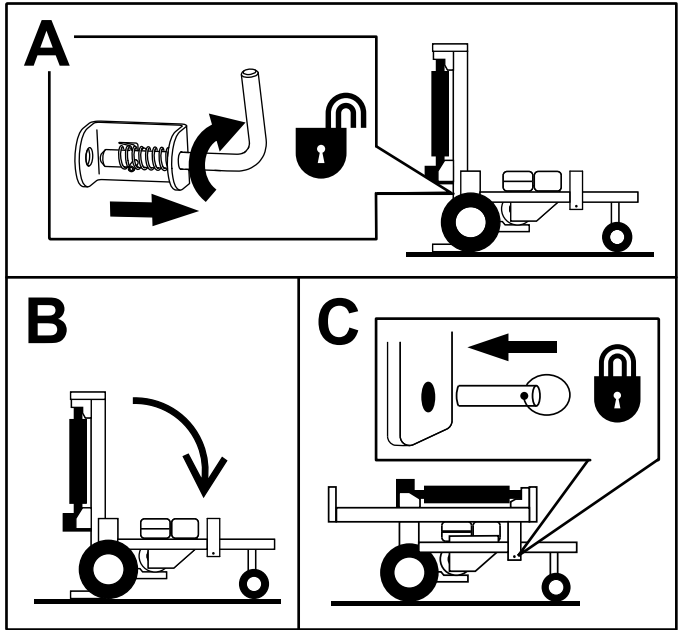

Figure 11
1. Rotate the vertical lock lever to the open position (Figure 11).
2. Carefully rotate the rail into the horizontal position (Figure 11).
3. Install the lock pin to secure the rail (Figure 11).